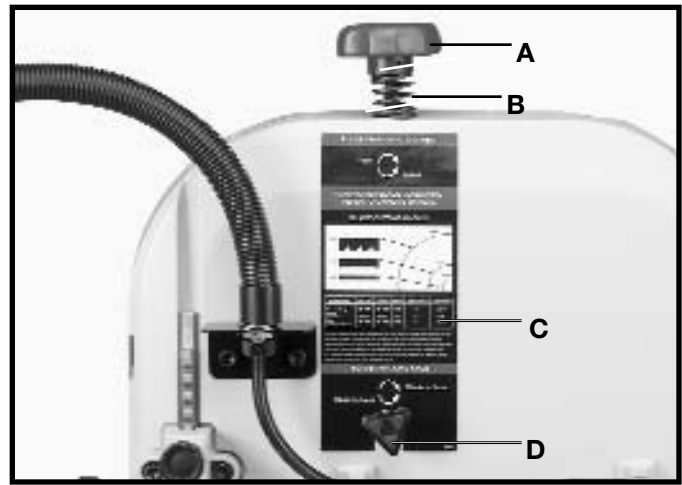

Fig. 19
1. After the desired blade is assembled to the two wheels, turn tension knob (A) Fig. 19, clockwise until spring (B) begins to compress.
2. Turn tension knob (A) Fig. 19, an additional 2-1/2 turns for 1/8" wide blades; 3 turns for 1/4" wide blades; and 4 turns for 3/8" wide blades.
3. A chart (C) Fig. 19, is located at the rear of the band saw. This chart shows blade size, and the minimum radius that can be cut with each size blade.
4. If an adjustment is necessary, **SLIGHTLY** turn blade tracking knob (D) Fig. 19, clockwise to move the blade to the rear, and counterclockwise to move the blade to the front. **NOTE:** Turn the blade tracking knob (D) in small intervals to adjust the blade tracking.